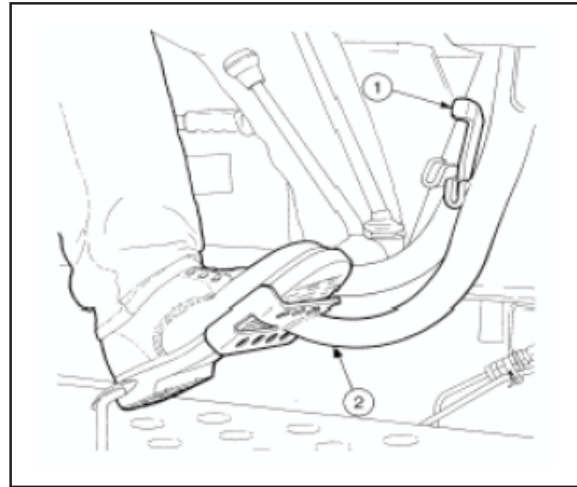

Fig. 30
The foot brake system is mechanically operated. The two pedals (2, Fig. 30) can be used independently to aid turning in confined spaces or can be latched (1) together to provide a master pedal for normal braking. For independent brakes, disengage the latch. The inner pedal will then act on the left-hand wheel and the outer pedal will act on the right-hand wheel. For details of operation.